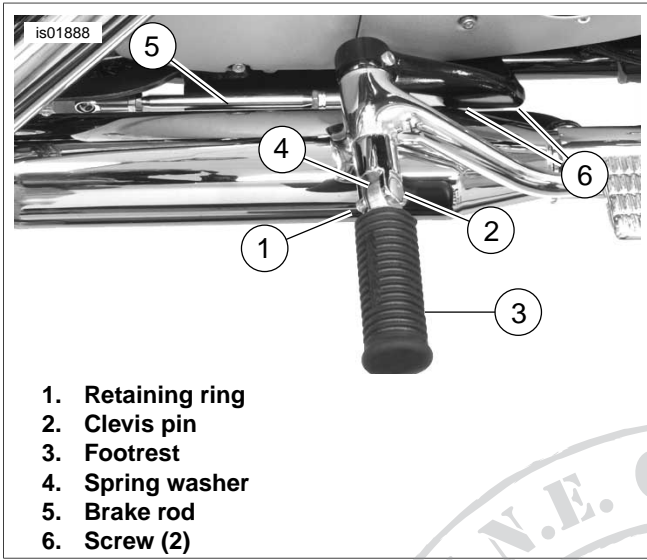

Figure 3. Remove Footrest Support and Brake Pedal
1. See Figure 3. At the right footrest, remove the retaining ring (1) clevis pin (2), footrest (3) and spring washer (4). Discard all hardware but save footrest for installation.
2. Remove brake rod (5) from brake pedal and master cylinder bell crank. Discard brake rod.
3. Remove the two screws (6) and right footrest/brake pedal support bracket with attached brake assembly from frame.